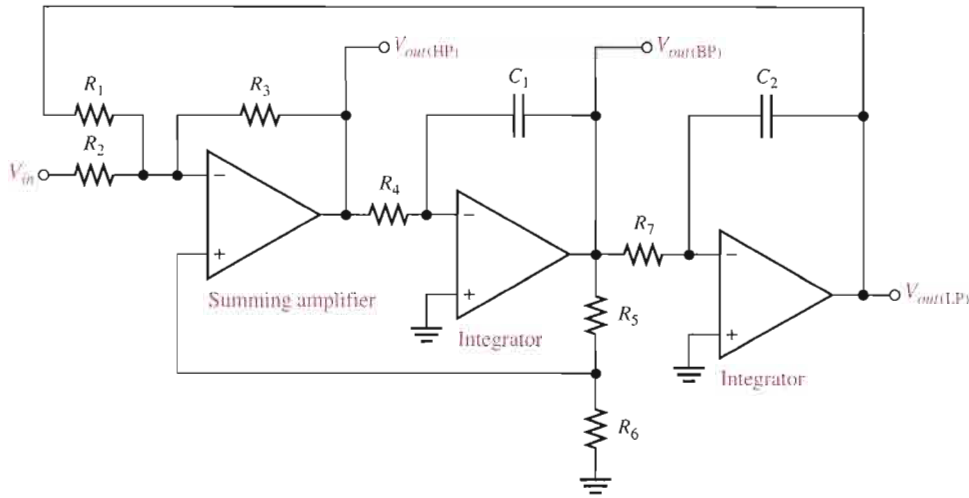

FIGURE 15-20
The state-variable or universal active filter is widely used for band-pass applications. As shown in Figure 15-20, it consists of a summing amplifier and two op-amp integrators (which act as single-pole low-pass filters) that are combined in a cascaded arrangement to form a second-order filter. Although used primarily as a band-pass (BP) filter, the state-variable configuration also provides low-pass (LP) and high-pass (HP) outputs. The center